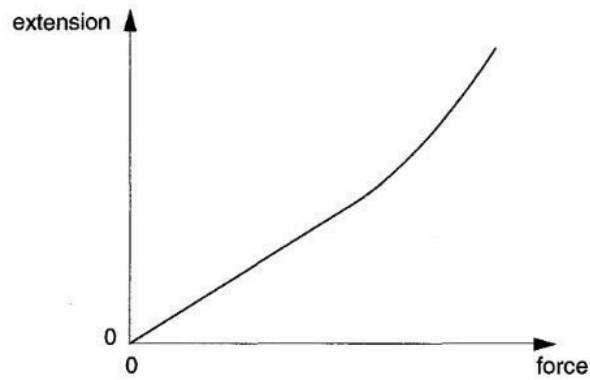

Fig. 3.1
- 3 (a)** Fig. 3.1 shows the variation with tensile force of the extension of a copper wire.
- (ii)** 1. On Fig. 3.1, mark with the letter L the point on the line beyond which Hooke's law does not apply.
2. State how the spring constant for the wire may be obtained from Fig. 3.1.